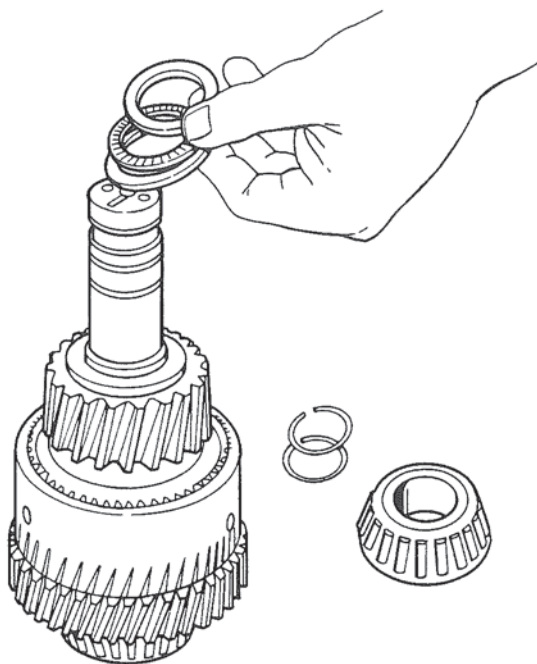

Figure 34. Installing Thrust Bearing Assembly.
1. **Thrust Bearing Assembly.** Install the thrust race against the hub and pinion, over the clutch shaft. Figure 34.